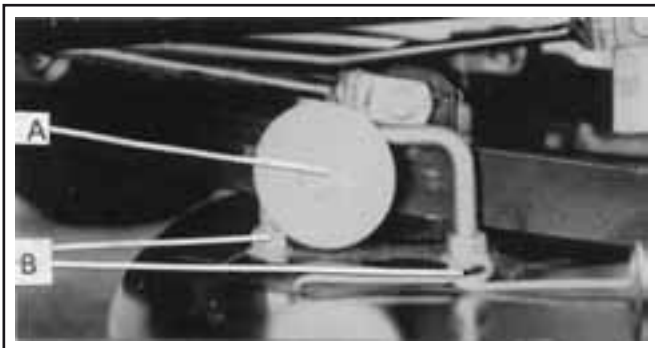

Fig. 12
1. Disconnect push rods & brake rod. *Fig. 12*
2. Remove the tensioning spring. A loop has been provided on the spring to assist in this operation. *Fig. 12*
4. Undo large retaining washer bolts (A) *Fig. 12* This will allow front of deck to be lowered to ground.